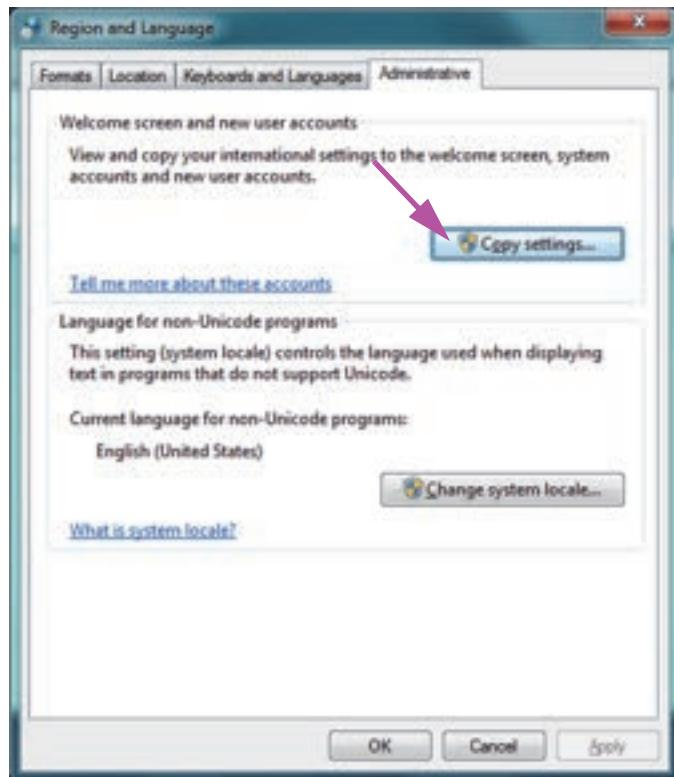

Figure C-16. Region and Language Screen—Administrative Tab
6. Click the **Administrative** tab. The Administrative tab appears (see Figure C-16).